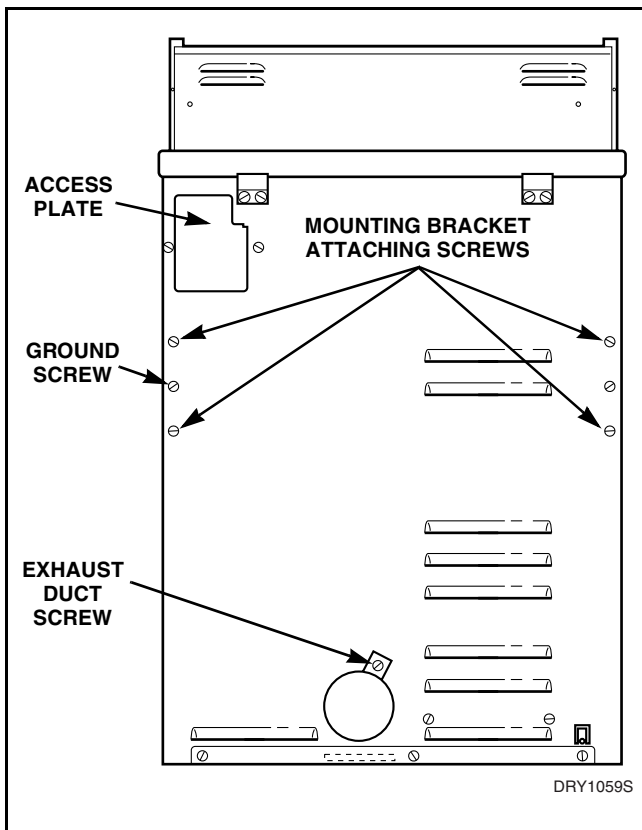

Figure 22
- Remove screw holding bracket on exhaust duct to rear of cabinet. Refer to *Figure 22*.